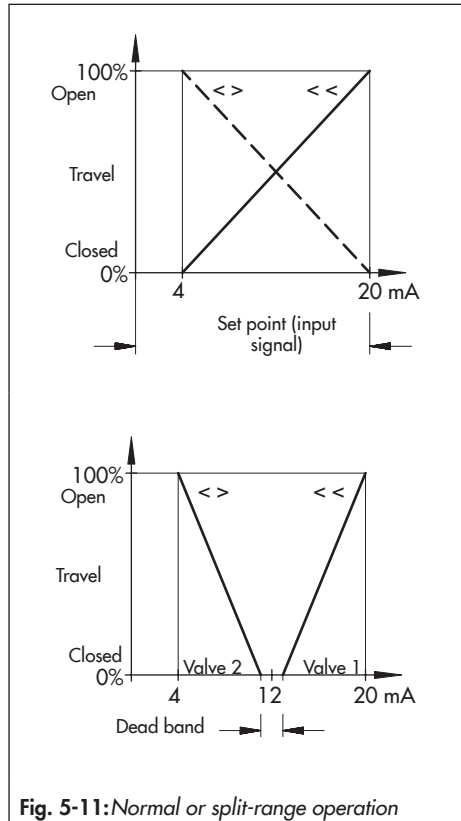

Fig. 5-11: Normal or split-range operation
- With a set point, for example 4 to 20 mA, the valve must move through its entire travel range from 0 to 100 % (Fig. 5-11, top).
- In split-range operation (Fig. 5-11, below), the control valves work with smaller set point ranges. The controller output signal is used to control two control valves, dividing it such that the valves move through their entire travel range at half the input signal range each (e.g. first valve set to 4 to 12 mA, second valve set to 12 to 20 mA). To avoid overlapping, allow for a dead band of ± 0.5 mA as shown in Fig. 5-11.